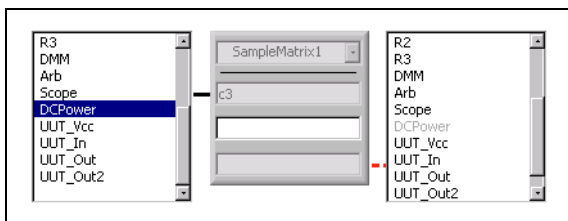

Figure 4. Incomplete Route
- Select the first endpoint of the route in the left column. Notice the dashed line between the device window and the second endpoint in Figure 4. The dashed line indicates that path is broken or incomplete.